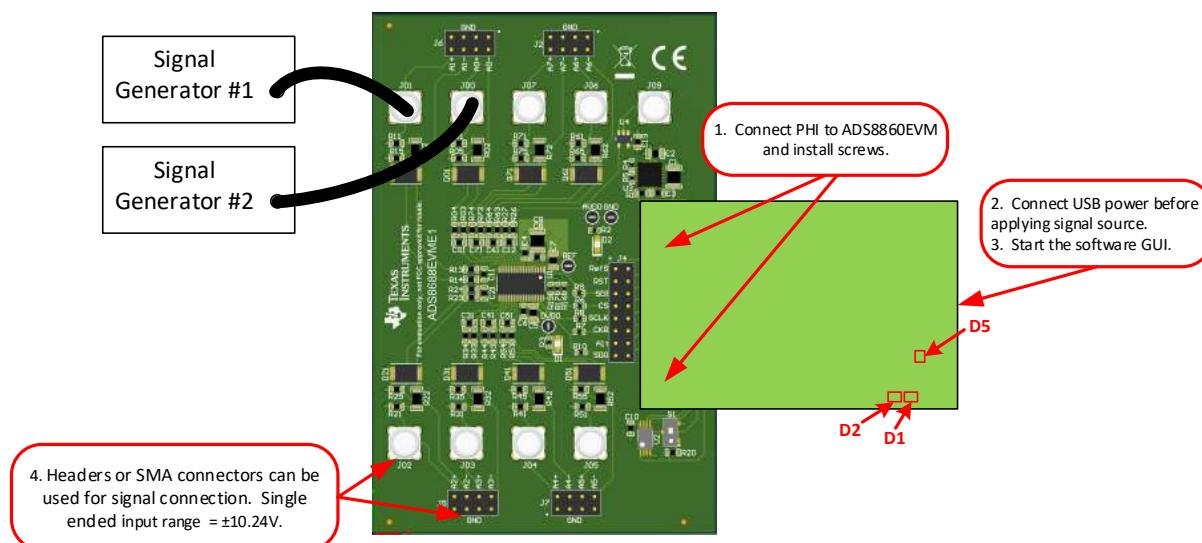

Figure 7-1. ADS8688EVM Hardware Setup and LED Indicators
After installing the software connect the EVM as shown in Figure 7-1
- LEDs D1 and D2 on the PHI start blinking to indicate that the PHI is booted up and communicating with the PC; Figure 7-1 shows the resulting LED indicators